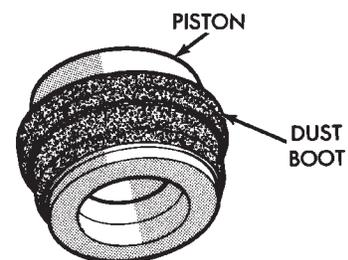

Fig. 72 Dust Boot On Piston
(5) Install new dust boot on caliper piston and seat boot in piston groove (Fig. 72).